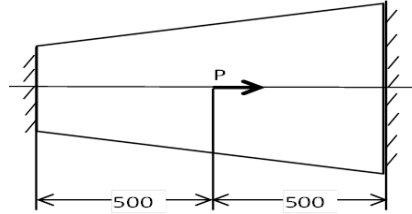

Figure 6
- Q.3 (a)** Aluminium tapered bar of length 1000 mm is having cross-sectional area of 950 and 450 mm² at two ends. Bar is fixed at both the ends. Bar is subjected to an axial force of 100 kN (in positive x direction) at point P as shown in Figure 6 at temperature of 25 °C. Temperature is then raised to 55 °C. The coefficient of thermal expansion for Aluminium is 23×10^{-6} per °C. Modulus of elasticity of bar material is 70×10^3 N/mm². Model the bar with two elements and determine;
(1). Nodal displacement (2) Stresses in each element